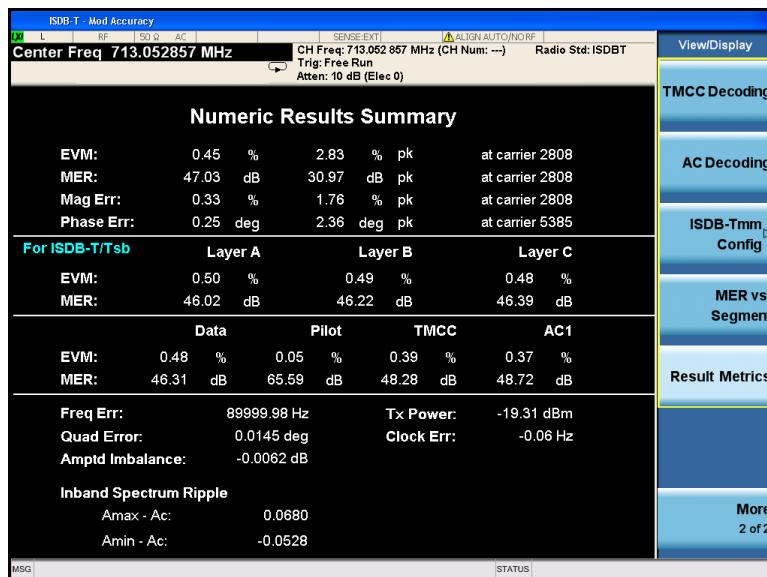

Figure 19. Modulation accuracy measurement with results metrics view
View result metrics (Figure 19)	[View/Display] {Result Metrics}
– **Result metrics view (Figure 19):**